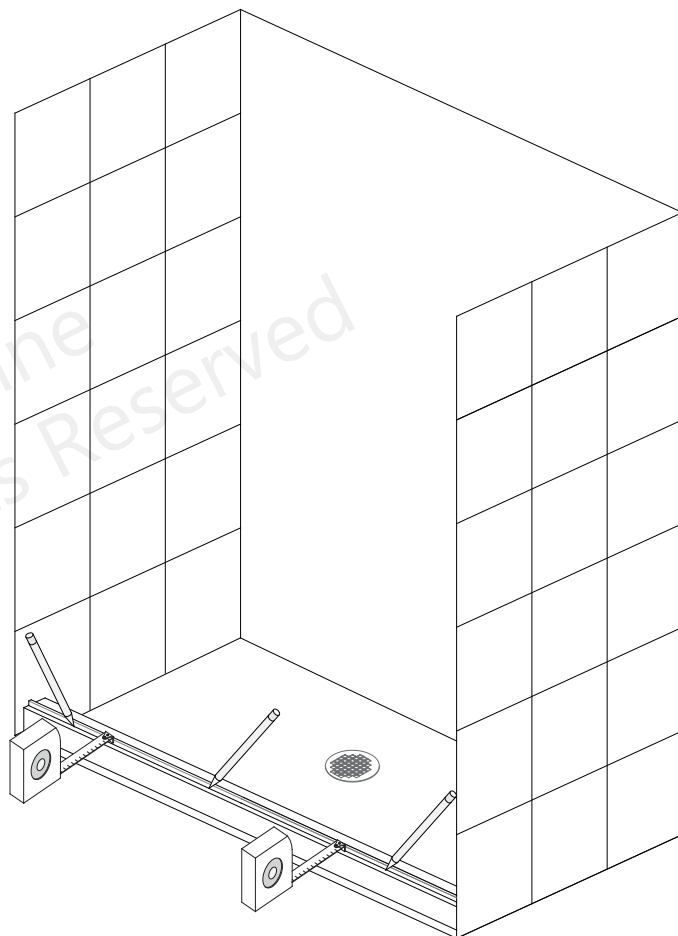

Fig 3
10. **NOTE:** This model requires a **minimum 3-1/4" of flat level threshold space for the wall profiles and 2-3/4" of flat level threshold space for the center guide block. See Fig 3 on Page #9.**
3. Placez **le rail inférieur (#08)** sur le seuil parallèlement au bord extérieur et marquez la position sur le seuil. **(Fig 3)**